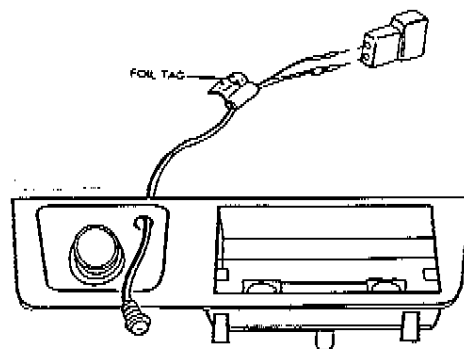

FIGURE 18
4. See Figure 18 . Install LED in ash tray housing. Properly install LED wire leads into the white plug housing (supplied in kit) so that wire color markings match those on the alarm wiring harness. Use the foil tag on the LED wires as a guide reference.